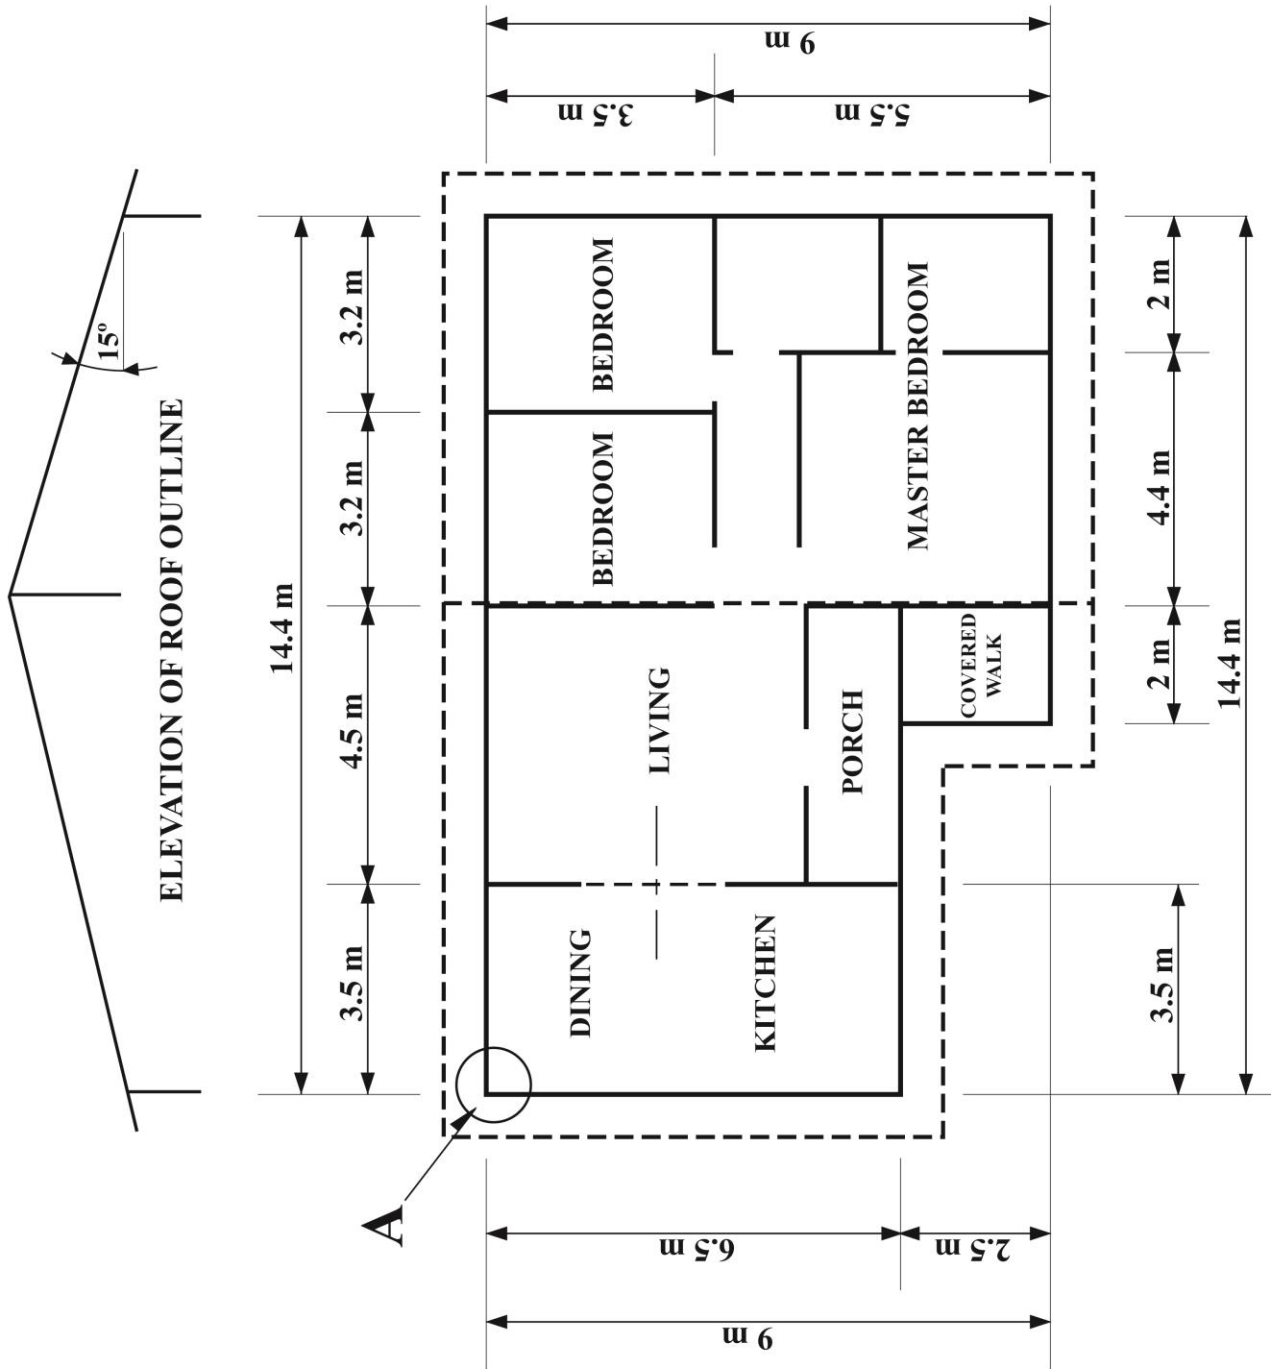

Figure 1
1. Figure 1, on the enclosed sheet, shows a single line outline of the floor plan for a three-bedroom residential structure of block construction. The outline of a continuous sloped roof is shown in broken lines.
2. The single line floor plan in Figure 1 shows a circle marked 'A'.